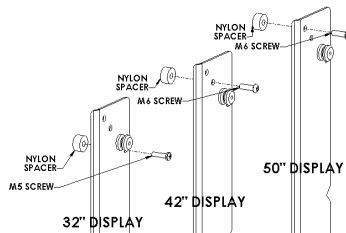
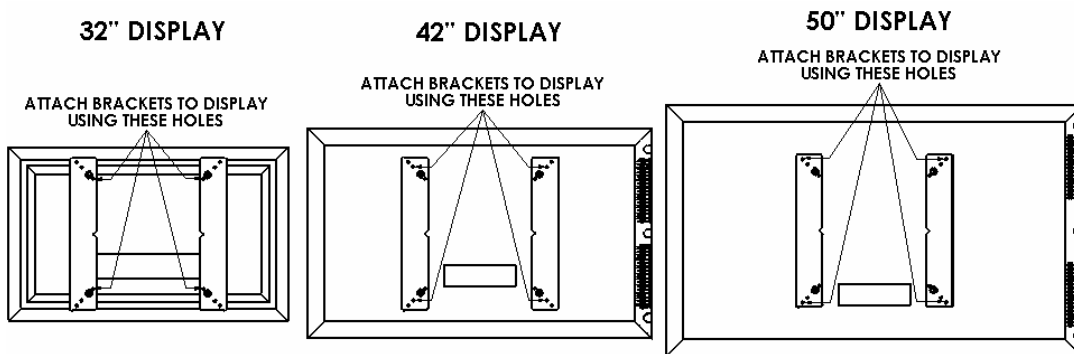

Figure 4
Figure 5
3. Attach mounting brackets to the display using the M5 screws for 32" screen or M6 for 42" and 50" screens (see Figure 4 & Figure 5).